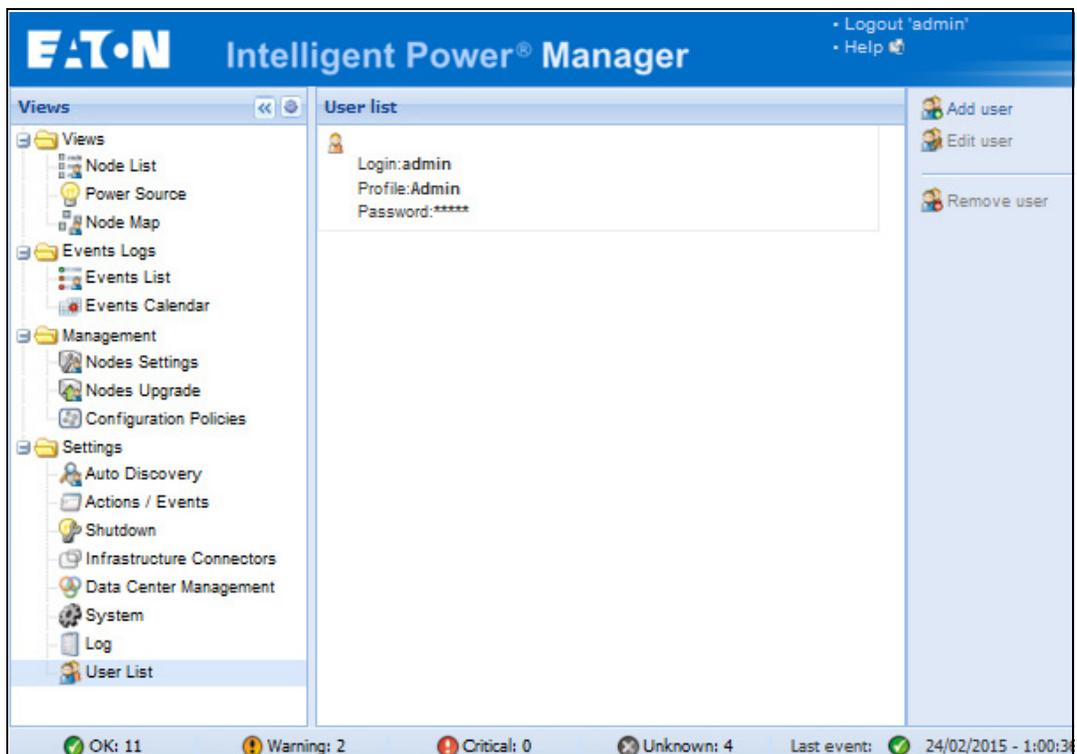

Figure 16. User List Page for User Account
1. From the left-side **Views** panel of the Eaton IPM main interface window, select the **Settings > User List** menu item. The User List page displays (see Figure 16).